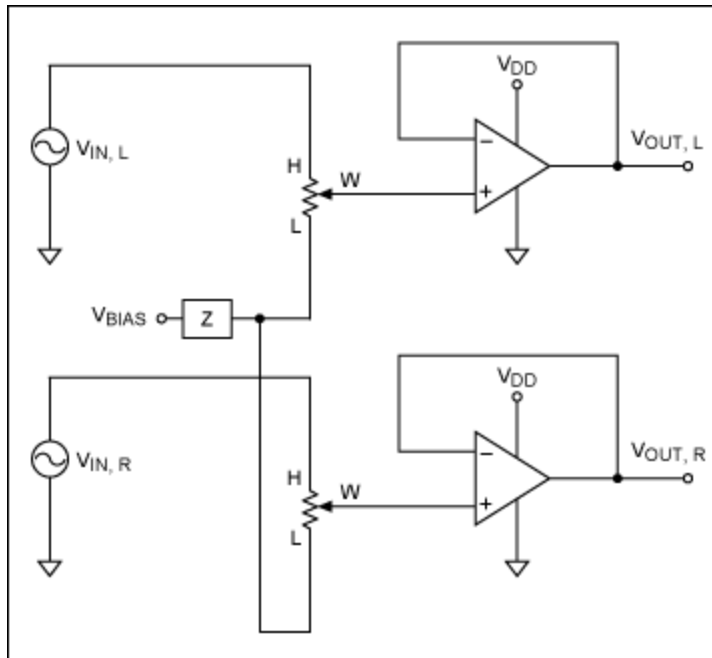

Figure 7. Passive bias networks and stereo signals.
Before we discuss the active circuit fix, let us take a look at what happens in a stereo design. For a stereo signal that is sharing a passive bias generator, the mute or feedthrough problem occurs. There is, however, an additional problem: crosstalk. Crosstalk is the leakage of signal from the left (L) channel into the right (R) channel, or vice versa. Here is how it happens. When we share the bias line between L and R channels the circuit is as shown in **Figure 7**.